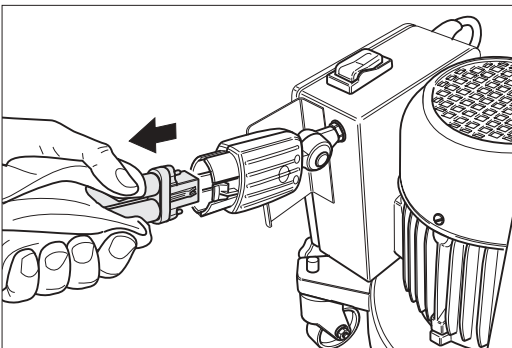

Fig. 82: Pull the defective fluorescent tube out of the fixture **carefully**.
- 5 Wrap a cloth or similar item around the fluorescent tube and then pull the fluorescent tube of the fixture. If appropriate, move the fluorescent tube back and forth carefully. **Do not break the fluorescent tube.** You could become injured by broken pieces of glass or you could also damage the floor (Fig. 82).